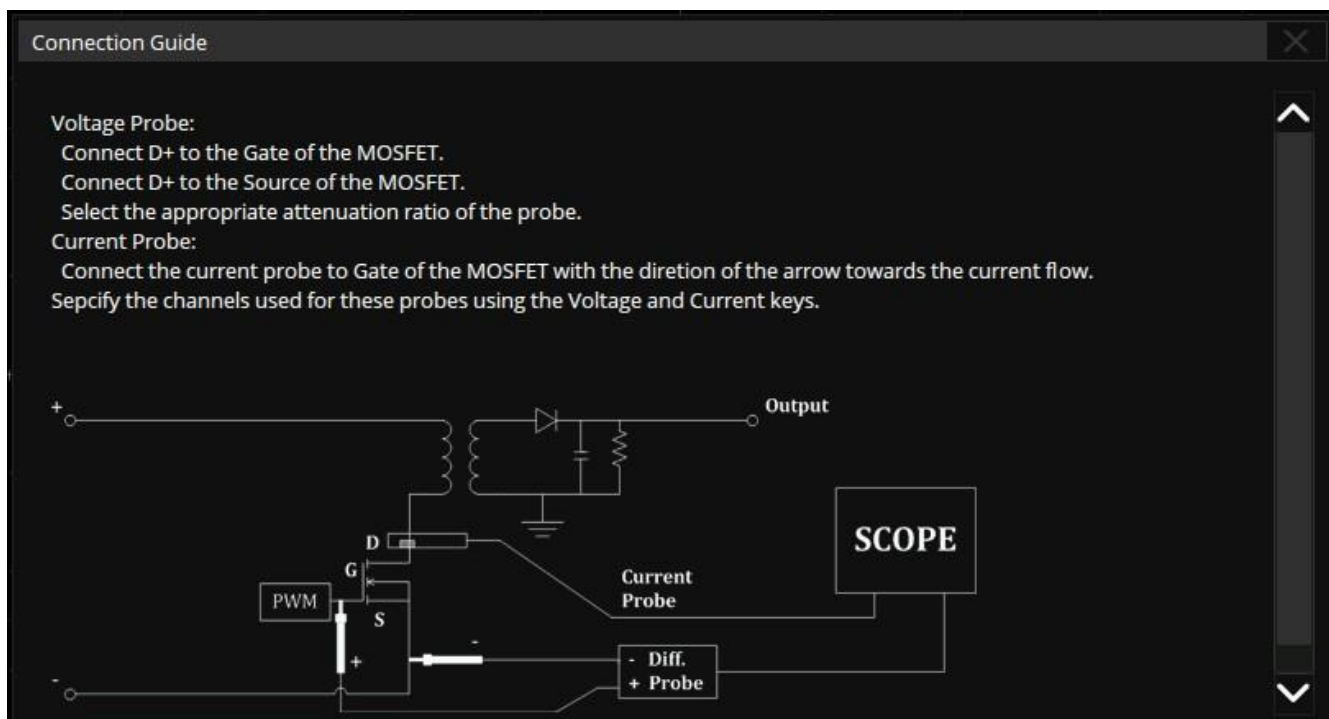

Figure 19.16 Connection Guide
5. Touch **Connection Guide** to display a diagram illustrating the procedure setup. See figure 19.16